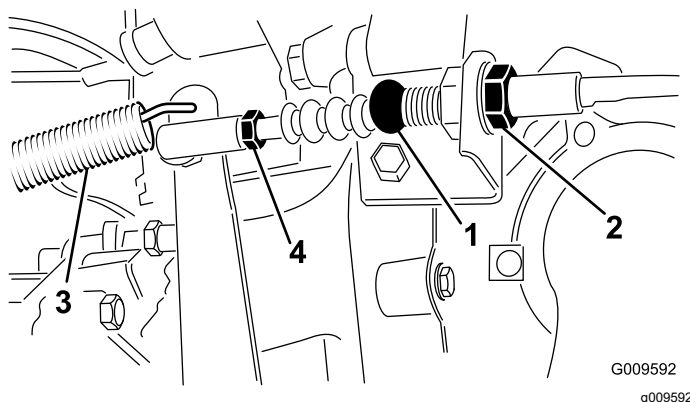

Figure 68
1. Loosen the jam nuts securing the clutch cable to the bracket on the bell housing (Figure 68).